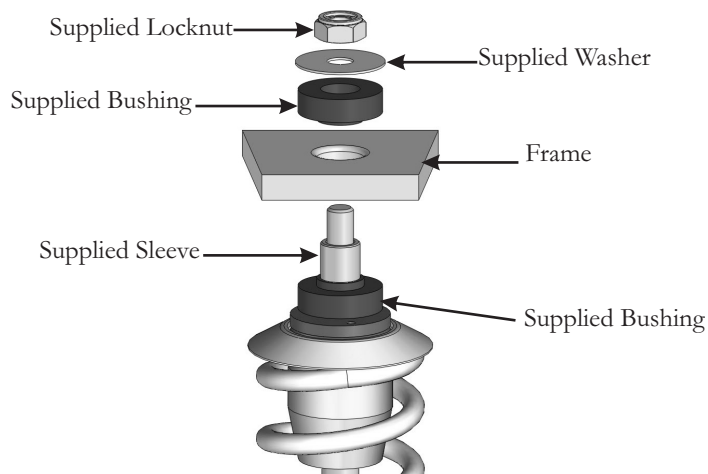

Figure 3
4. Install the supplied sleeve onto the top-post of your 435 series shock, followed by one of the supplied top-mount bushings - sliding the bushing over the sleeve. Then install the post end of your 435 shock through the frame, install the other supplied bushing, then the flat washer, and finally the nut (see figure 3). Using a hex key to keep the upper post from rotating, torque the nut to the factory recommended 47 Nm (35 ft/lb).